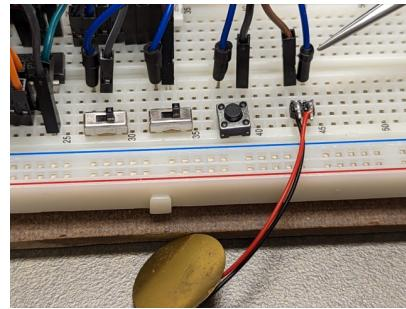

Figure 6: Connecting the Piezoelectric Disc.
- ( ) Insert the piezodisc's header into unused rows on the breadboard (Figure 6).